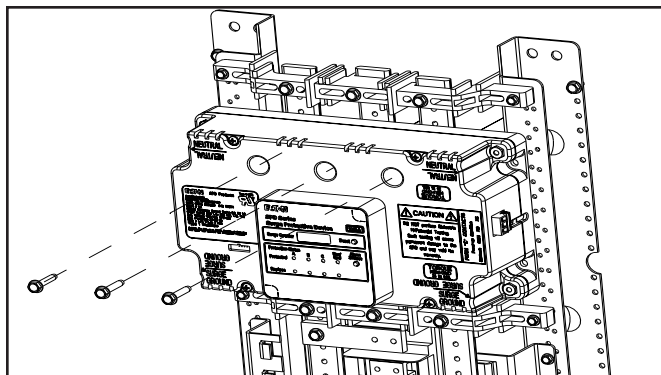

Figure 3. Bus Connection
5. Install the bus mount fasteners and tighten to 4.1 Nm (36 in-lbs). See Figure 3.